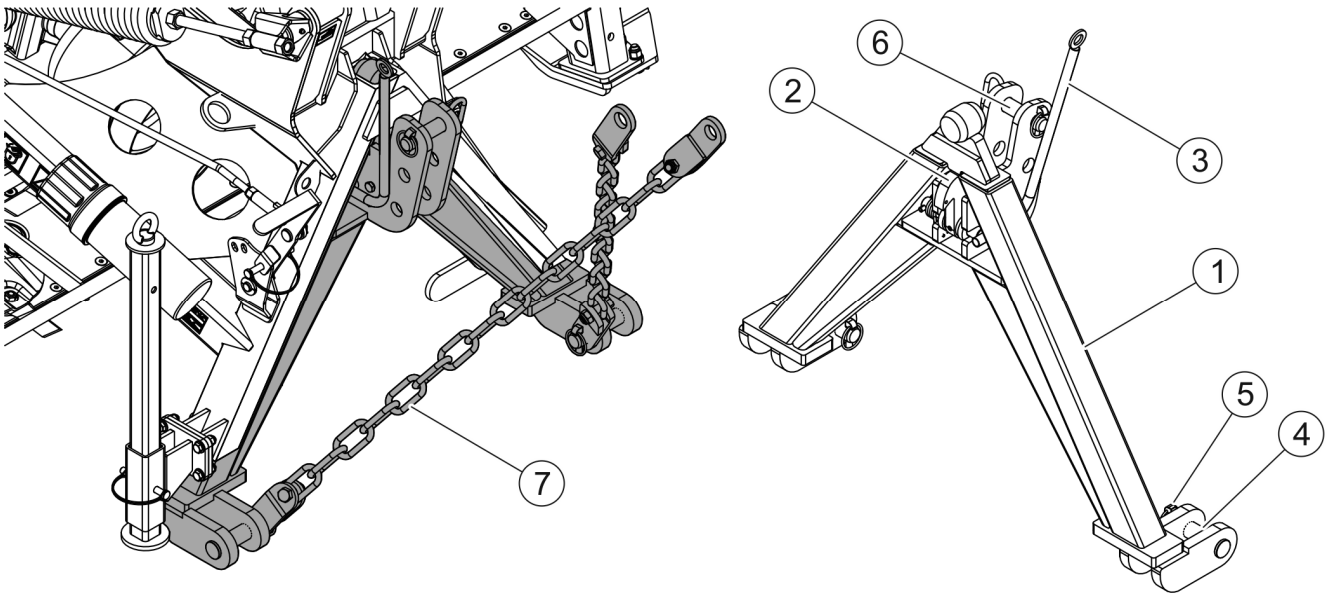

FIGURE 3.3 Hitching system
(1) triangular hitching system, (2) catch, (3) catch lever, (4) lower arms mounting pin, (5) cotter pin, (6) upper tension rod mounting pin, (7) relief chains.
Hitching system - (FIGURE 3.3) allows hitching of mower to tractor's three-point linkage. The mower is equipped with a triangular hitching system (1), which is hitched to lower hitching point of tractor's front three-point linkage using pins (4) and to upper hitching point using pin (6) and then secured with cotter pins (5). Hitching is completed once catch (2) is engaged in linkage frame. A catch lever (3) is used to disable the machine.